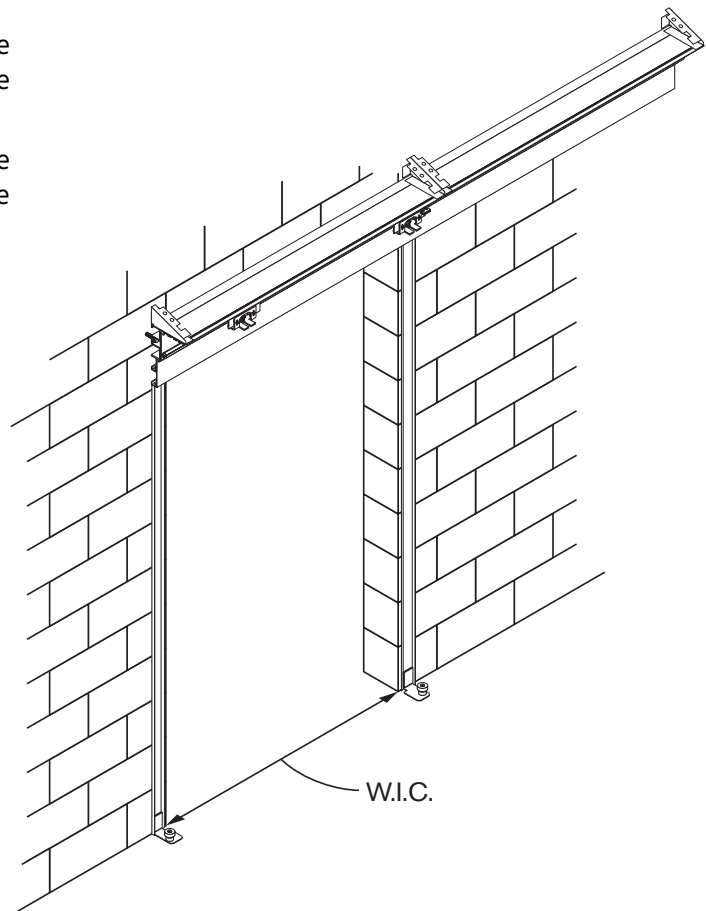

Figure 17: Positioning the Header
6. For a right hand slide, position the left edge of the header (w/o shroud) flush with the left edge of the wall clip (Figure 17).